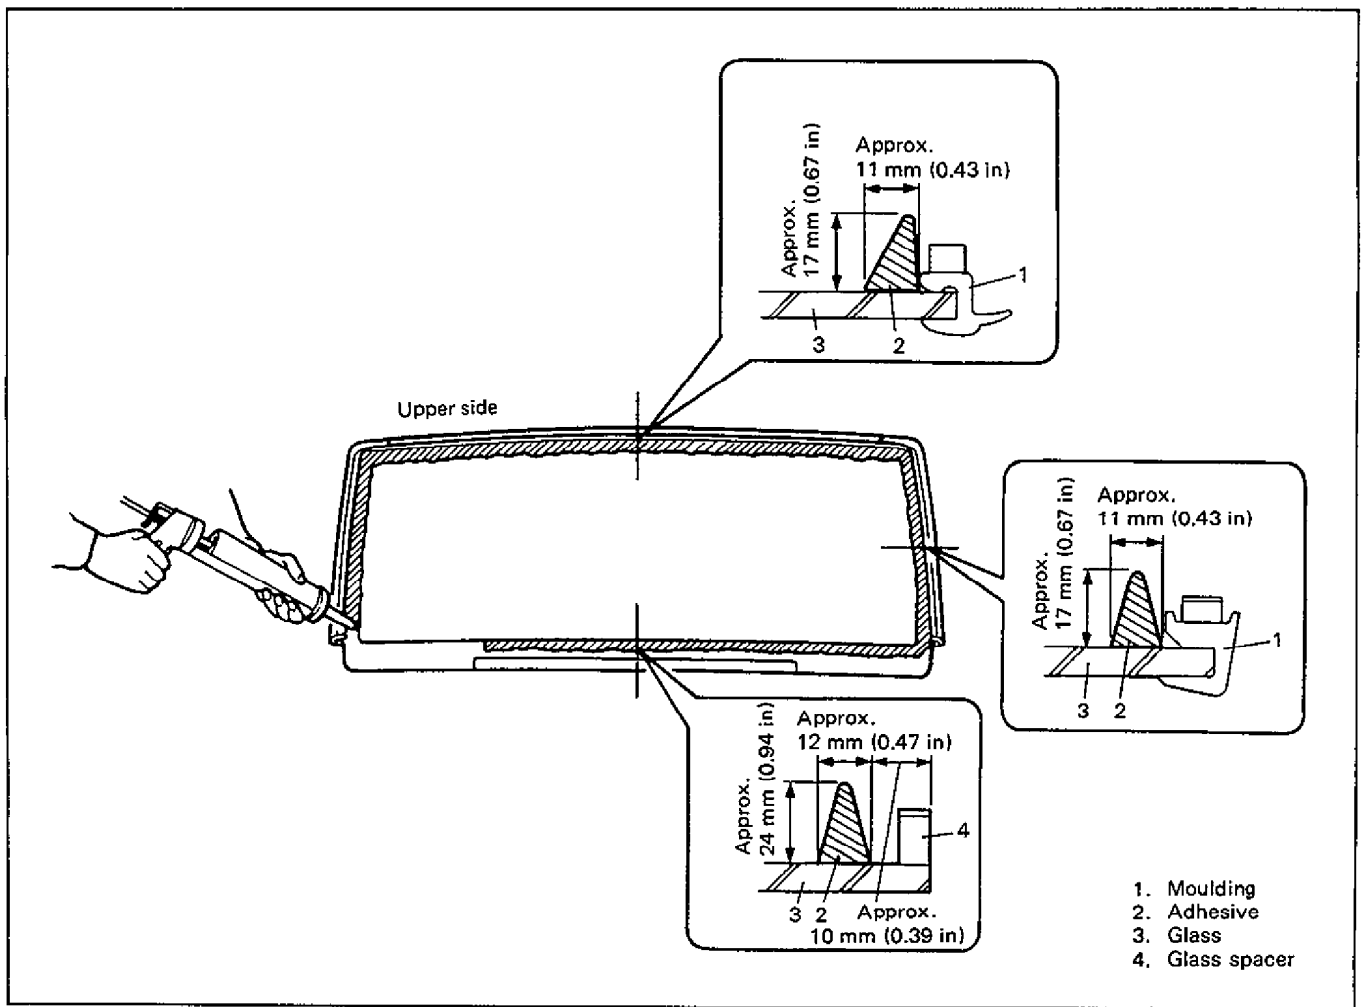

Fig. 9-51 Application of Adhesive
11) Apply adhesive referring to Fig. 9-51.